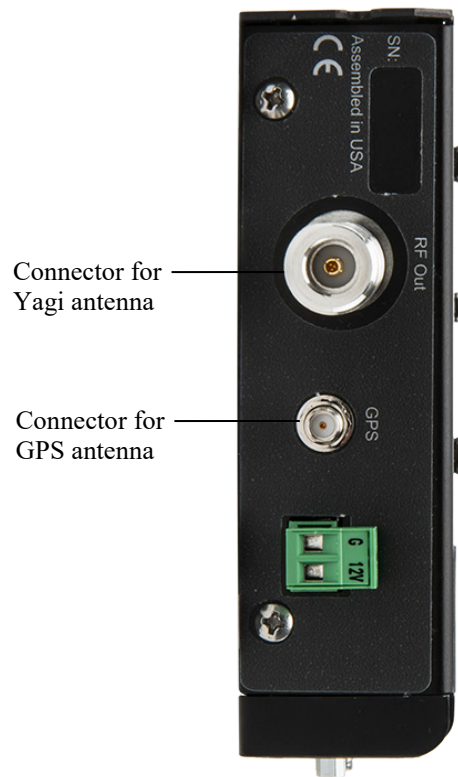
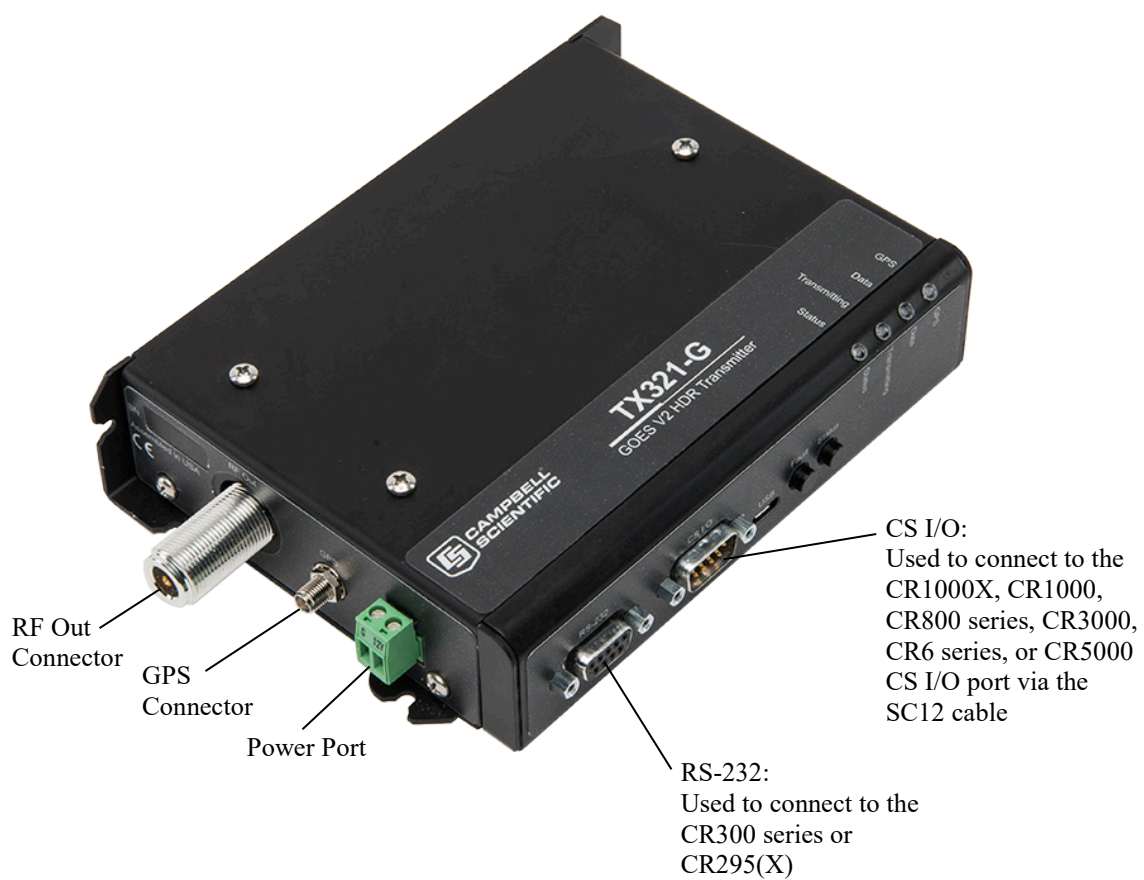
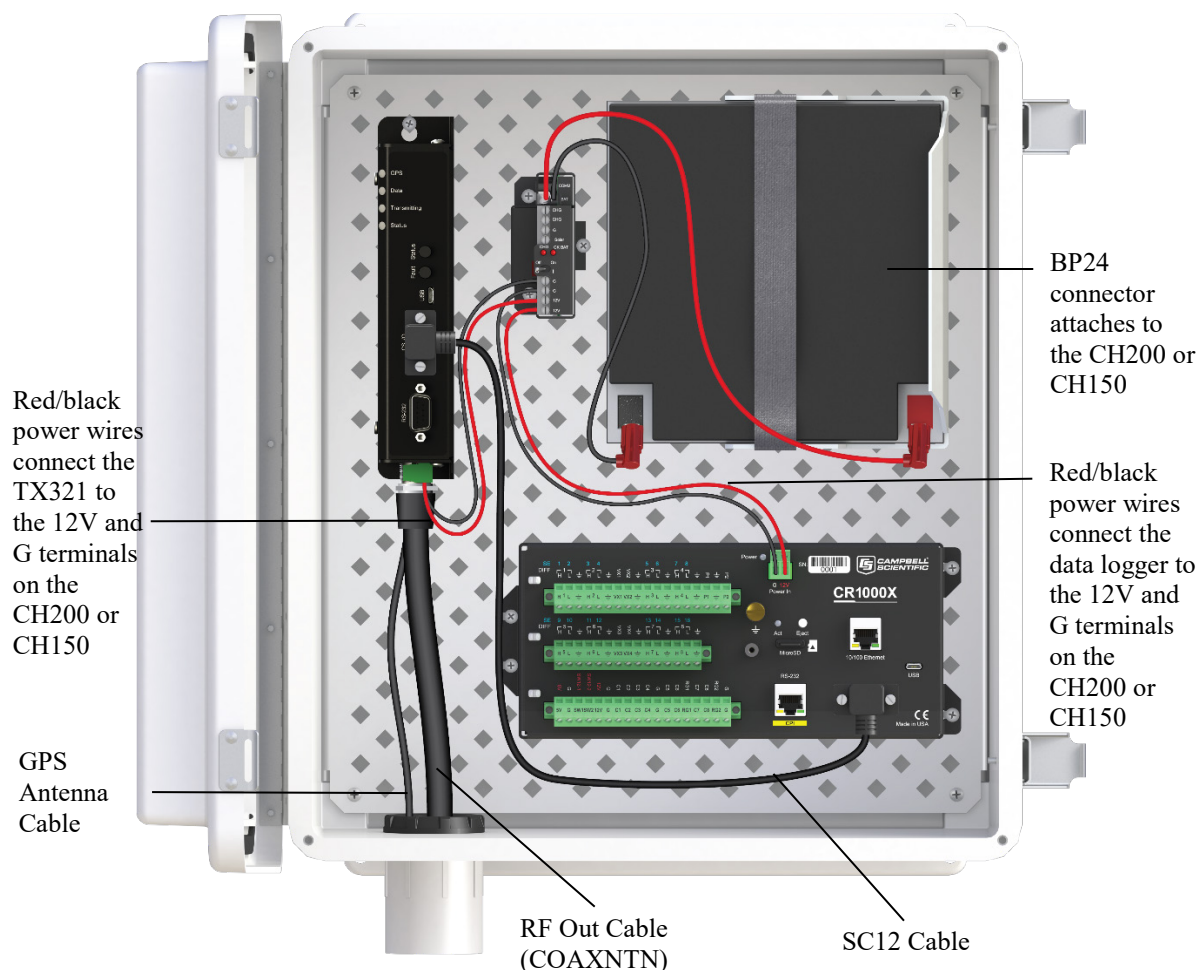

FIGURE 4-7. Antenna connectors
FIGURE 4-8. TX321 connectors
FIGURE 4-9. DCP enclosure
Refer to Section 4.1.1, *Accessing DevConfig* (p. 2), for information about accessing *DevConfig*. The transmitter internal GPS can be used to acquire azimuth and elevation information. To use the internal GPS device, connect the GPS antenna (see FIGURE 4-7). The information is listed on the GPS tab of *DevConfig*.
6. Mount the TX321, the CH150 or CH200 regulator, the BP12 or BP24 battery pack, and the data logger to the backplate of an ENC16/18 enclosure (see FIGURE 4-9).
8. Connect the COAXNTN cable to the Yagi antenna. Route the COAXNTN cable through the enclosure conduit and connect it to the TX321 connector labelled RF Out (see FIGURE 4-7 and FIGURE 4-8).
9. Connect the TNC connector of the GPS antenna cable to the GPS antenna. Route the GPS antenna cable through the enclosure conduit and connect it to the TX321 connector labelled GPS (see FIGURE 4-7 and FIGURE 4-8).
10. Wire the TX321, the CH150 or CH200 regulator, the BP12 or BP24 battery, and the data logger according to FIGURE 4-8 and FIGURE 4-9.